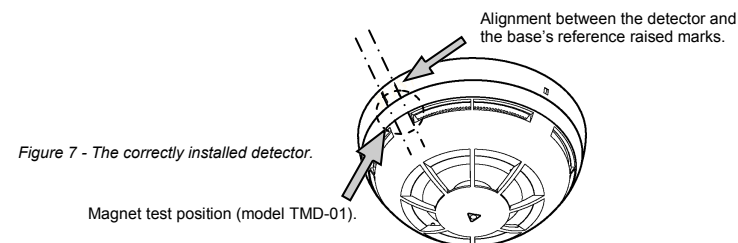

Figure 7 - The correctly installed detector.
Position the magnet (model TMD-01, optional) next to the detector, between the two raised marks on the base (figure 7). The magnet test simulates smoke in the optical chamber and verifies the function of all electronic circuits of the detector and its communication with the control panel. The detector should trigger an alarm message to the control panel, and, successively, the detector's red LED should be activated by the control panel itself.
5. When the detector is firmly engaged verify the alignment between the detector and the raised reference marks on the base (figure 7).